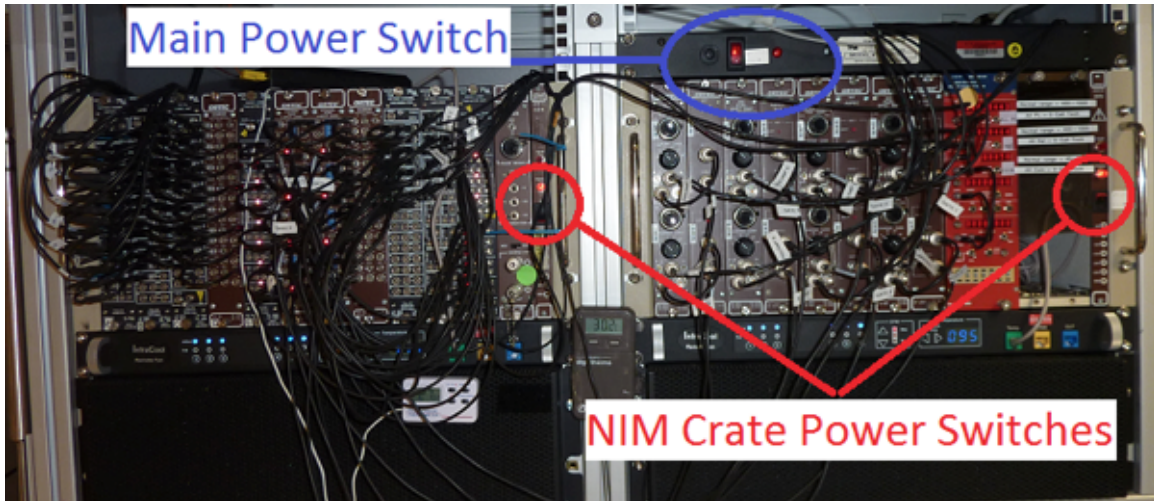

Figure 25. Master Power Switch.
3. **Turn off** the fast signal processing electronics (*Figure 25*; **leftmost NIM rack**).
5. **Turn off** the **master power switch** above the middle NIM rack (**blue circle** in *Figure 25*).
1. **Turn on** the **master power button** above the middle NIM rack (**blue circle** in *Figure 25*).
5. **Turn on** the fast signal processing electronics (**left-hand NIM rack**, the **left red circle** in *Figure 25*).